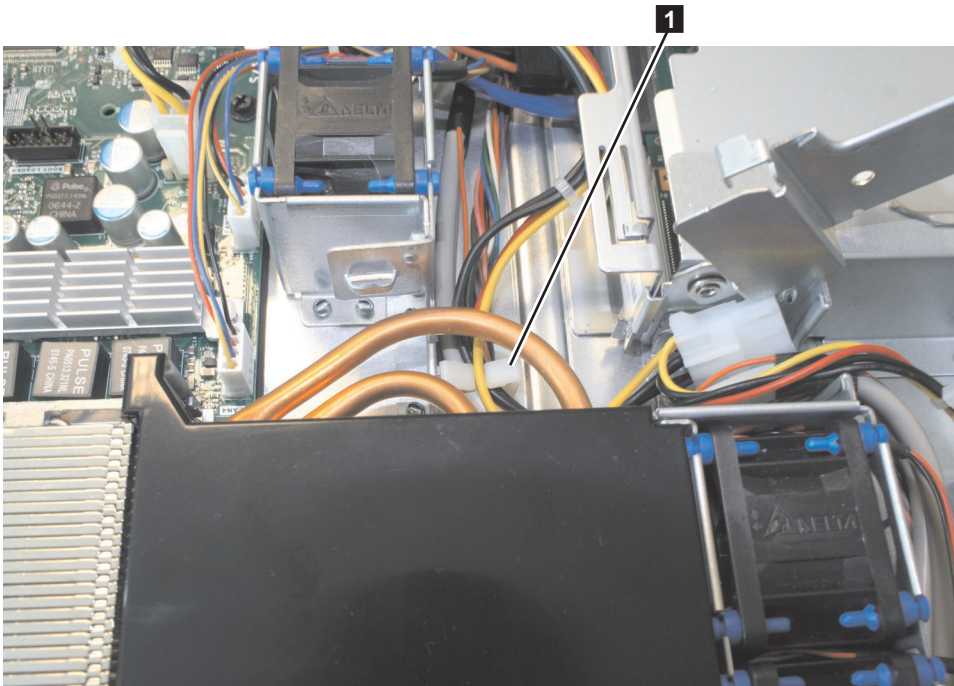

Figure 157. The retention clip for the SAN Volume Controller 2145-8A4 power-supply cables
6. Route the power-supply cable with the P5 connector to the CD/DVD interface card and secure it under the retention-clip **1**, as shown in Figure 157, on the chassis.